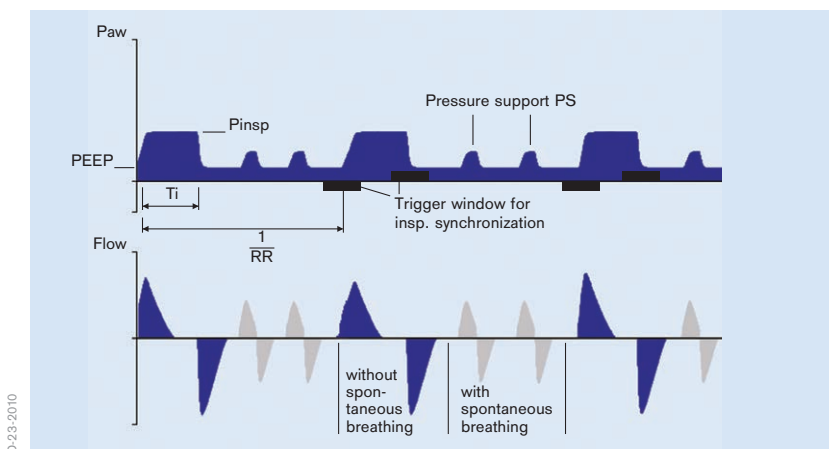

Figure 25: PC-BIPAP
- permitted spontaneous breathing during the whole breathing cycle (Figure 25)